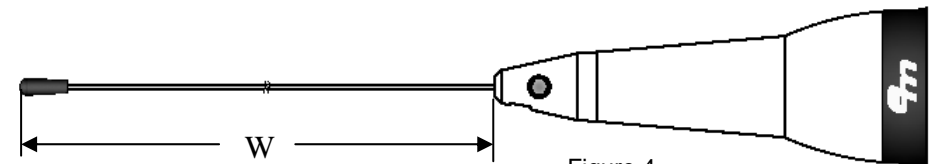

Figure 4
**2. Note:** The Tuned Length "W" is determined by measuring the distance between the top of the whip adapter and the top of the whip. **See Figure 4.** Cut length dimension will be approximately 1" (25mm) longer than Tuned Length "W".
**5.** Cut the whip length required to establish the specified Tuned Length "W" as shown in Figure 4.
- Note:** The tuned length "W" is determined by measuring the distance between the top of the whip adapter and the top of the whip. **See Figure 4.** Cut length dimension will be approximately 1" (25mm) longer than Tuned Length "W".